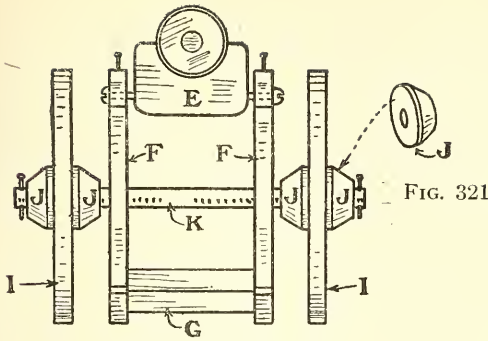
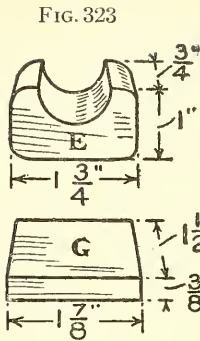

FIG. 316
FIG. 319
The Gun-Carriage. Figure 316 shows a *rear elevation* of the mounted gun, and Fig. 317 shows a detail of the *carriage* framework. The pair of carriages *F* may be prepared in one piece, cut out of a piece of wood $\frac{5}{8}$ inch thick, then sawed in half. Figure 318 shows a dimensioned pattern for marking out the piece. The $\frac{1}{4}$ -inch hole is for the wheel axle; the $\frac{1}{8}$ -inch hole is for the *trunnion* screws on which the gun is to be mounted. Separator block *G* (Fig. 317) braces the *trail* of the carriage. Make it of the size shown in Fig. 319. Before fastening carriages *F* to *G*,
- FIG. 316.—Rear Elevation of Mounted Gun
Mounting the Gun. Because of the thinness of the tube of the gun, the screw trunnions cannot be driven into it. The gun must be mounted upon a *bed block* (*E*, Figs. 316 and 323), and the trunnions screwed into the block's sides. The upper side of block *E* must be curved the same as the surface of the gun. To get the right curve, bore a 1-inch hole through a block, then cut this block through at the center of the hole, and trim it up to the dimensions shown in the diagram of Fig. 323. Glue the gun to the bed block, and when the glue has set drive a small screw through each carriage into it.